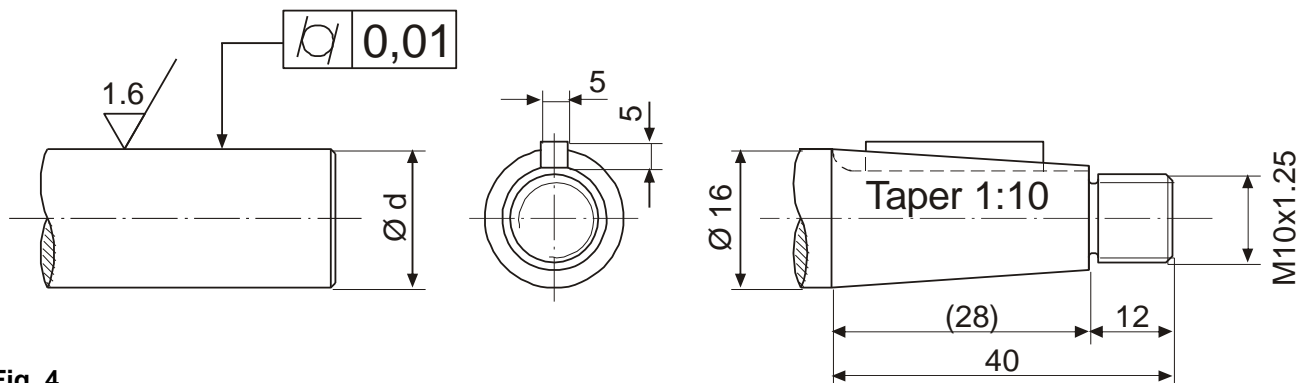

Fig. 4
- ☐ Please keep to the tolerances shown in Fig. 4.